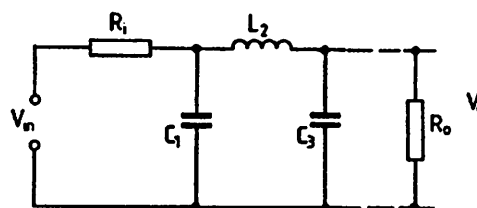

Figure 6.1
6. (a) For a 3rd order Chebyshev switched capacitor low pass filter, calculate the normalised passive component values for the original double terminated LC prototype of the filter shown in Figure 6.1. The filter is to have a cut-off frequency of 10 kHz and assume a clocking frequency of 200 kHz. The values of the integration capacitor for the capacitor-based sections are 10.12 pF, and for the inductive based sections are 6.98 pF. All other switched capacitors are 1pF. All values should be normalised to 1rad/s. You may assume that the clocking frequency is so high that the integrators can be assumed lossless.